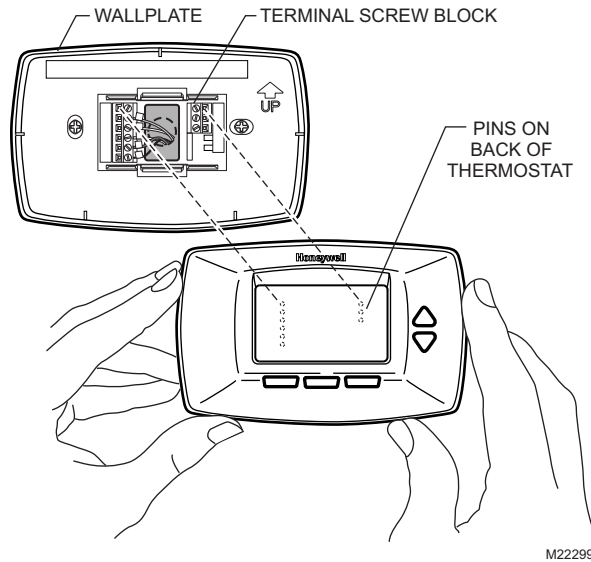

Fig. 40. Placing thermostat back onto subbase.
3. Place thermostat back on subbase by aligning terminal screw blocks with the pins on the back of the thermostat. (See Fig. 40.)